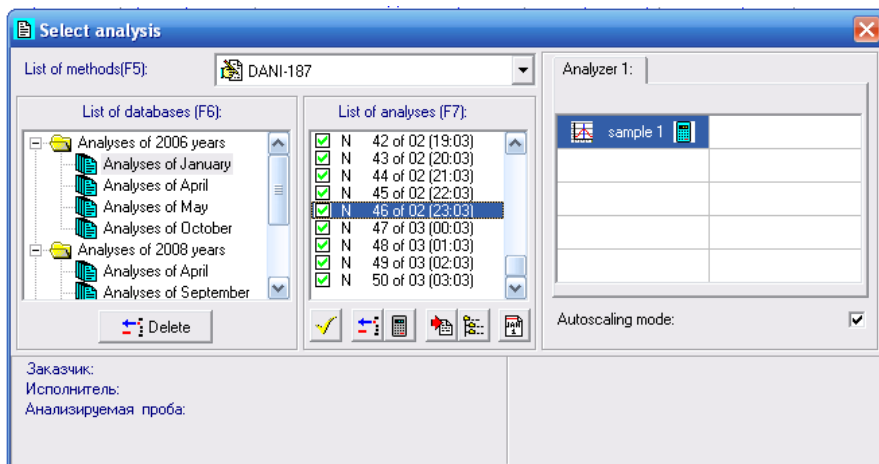

Figure 3.15.
To activate the «*Overlaying the chromatogram*» dialog box (see Fig. 3.15), in which you can select a chromatogram to overlay:
- put the mouse cursor on the needed sample field of the analyses table (right field of the window, see Fig. 3.15) and click twice on it.